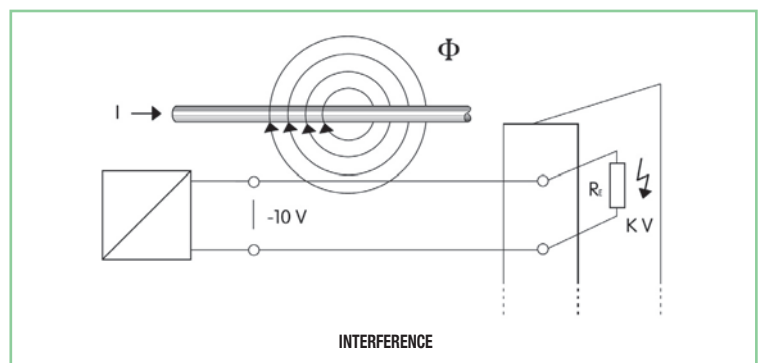

fig. 6
- the signal cables are wired in conduits with power cables (Fig. 6).